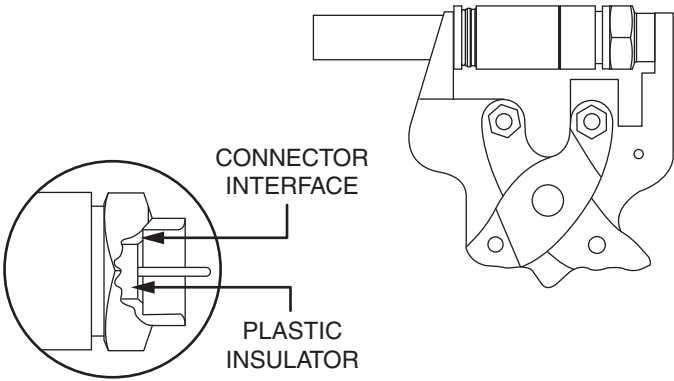

Figure 5
- 4) Insert connector (with cable) into LRC installation tool #L3011B. Seat plastic sleeve into the pocket of the tool jaw. Squeeze handles together. The black plastic sleeve and the white pin insulator should both snap into place, with o-ring completely hidden under the collar. The plastic insulator holding the pin, should be below or flush with connector interface (see Figure 5).